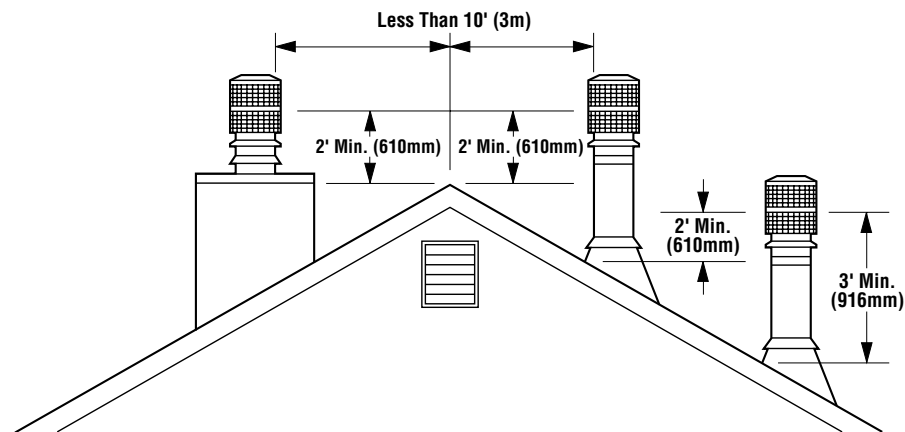

Figure 5
8. *Figure 5* illustrates the correct height of your chimney top. It is unlikely that your installation does not adhere to the installation instructions. However, if not correct, you could experience an unusual downdraft. Usually, the best solution is to increase the chimney height. This may also be necessary if nearby trees, adjoining roof lines or a hill is causing a downdraft condition.